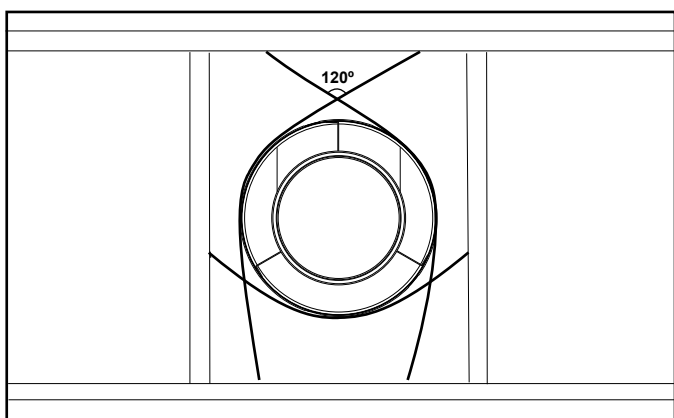

Figure 7.8 Securing Vertical Pipe Sections
- Vent supports or plumbers strap (spaced 120° apart) may be used to support vent sections. See Figures 7.8 and 7.9.
**Note:** Figures 7.8 and 7.9 are to be used for reference only. Method of strap installation could vary by configuration of vent system.